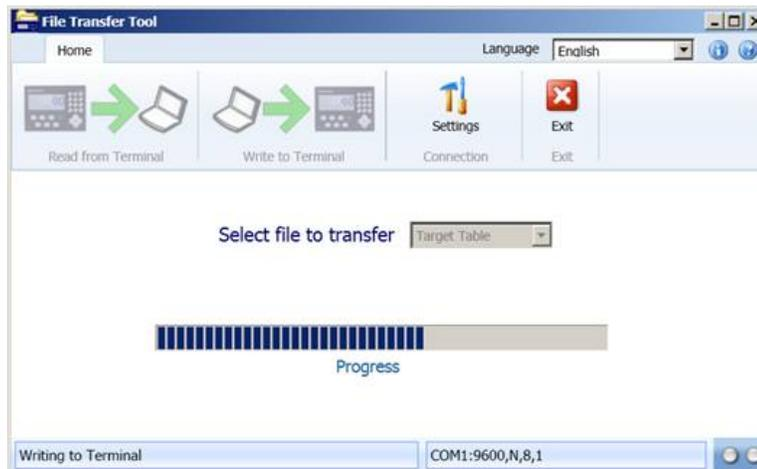

Figure 3-10: File transfer process bar
7. Once the transfer process begins, the **Home** tab of the IND246 File Transfer Tool will display a progress bar, as shown in Figure 3-10.